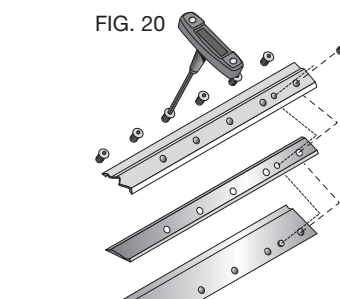

FIG. 20
2. To reset the knife clamp, align the beveled edge of the knife clamp with the cutting edge of the knife (Fig. 20). If these are not aligned correctly, the clamp will not secure the knife properly.